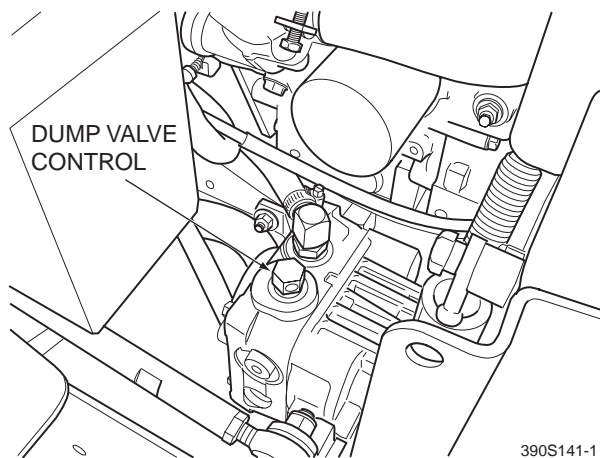

Figure 4-2. Dump Valve Control
11. **Dump Valve Control Levers (Figure 4-2).** Located on the hydraulic pumps, used to "free-wheel" the mower. Rotating the levers clockwise until they stop allows the unit to move under hydraulic power. The levers must be in this position and torqued to 10 lb-ft during operation of the mower. Rotating the levers counter-clockwise allows the mower to be moved by hand (free-wheeling).